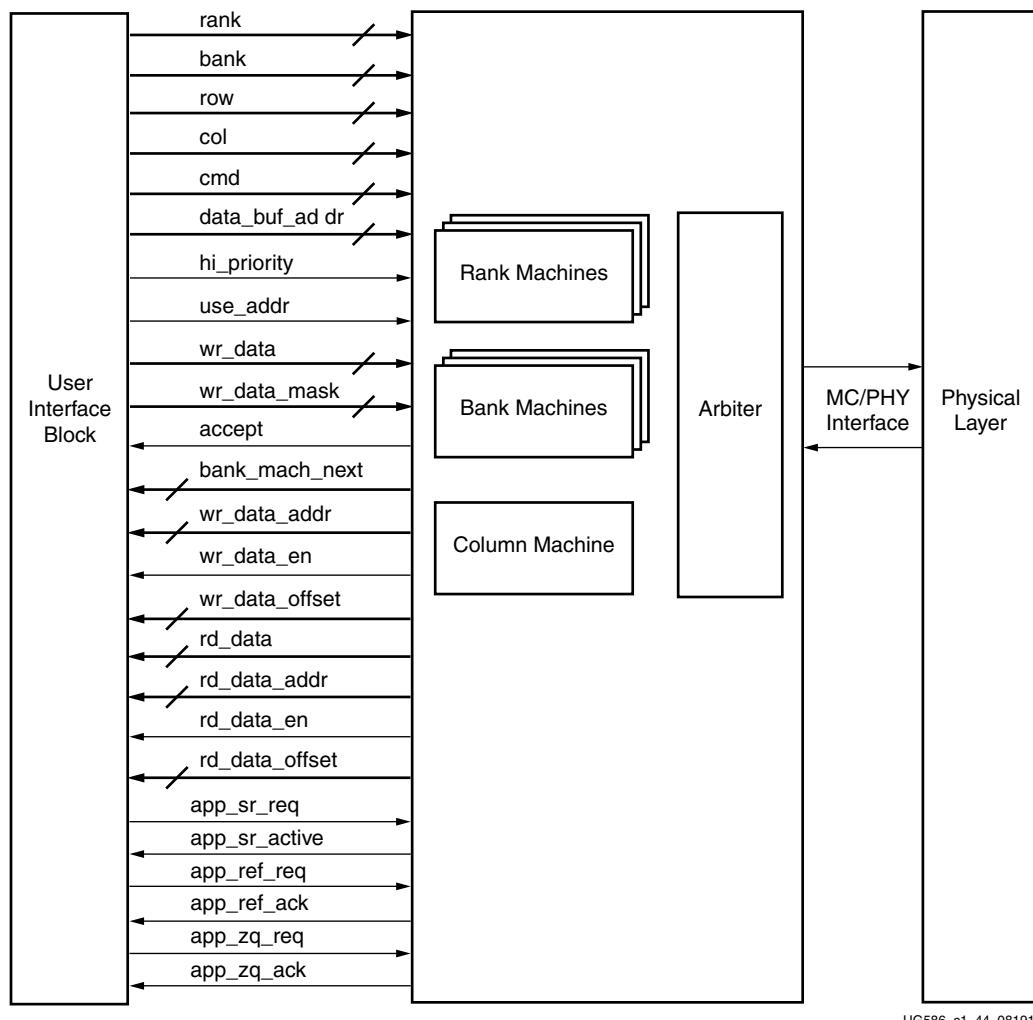

Figure 1-53: Memory Controller
In the core default configuration, the Memory Controller (MC) resides between the UI block and the physical layer. This is depicted in Figure 1-53.